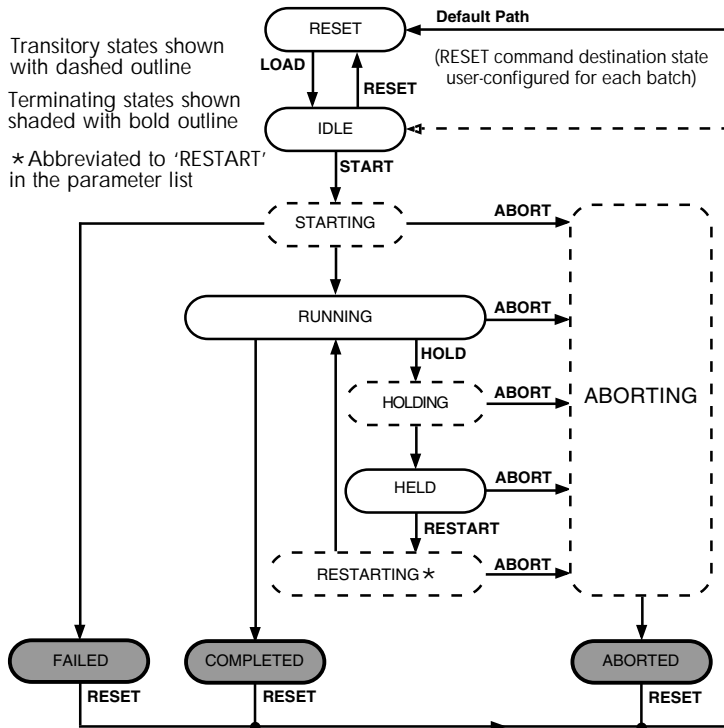

Figure 6-4 Batch engine state diagram
In the COMPLETE state, RESET is the only active button — see Figure 6-4
Figure 6-4 shows the instrument batch engine state diagram. The different states are shown in boxes linked by labelled arrowed lines. In most cases you can get from one state to another by pressing the button identified by the relevant label. E.g. the only way to get from RESET to IDLE is to press the LOAD button. In the RESET state, no other button is active.
- 1 From the **COMPLETE** state, press **RESET** to get the batch engine into the **RESET** state. This is the only possibility, see Figure 6-4. The **Batch Status** screen appears.
- 3 In the **Batch Start** screen you have two possibilities, **START** and **RESET**. **SAVE AS** does not affect the batch state. Figure 6-4 shows where each of these leads. Press **START** to move to the **RUNNING** state.
***Note** You can see from Figure 6-4 that pressing **RESET** from any of the terminating states (**FAILED, COMPLETE, and ABORTED**) moves the batch state either to **RESET** (the default) or to **IDLE** (if you configure it so). An advantage of the **IDLE** state is that you don't have to reload the batch to run it again. But the advantage of returning to **RESET** is that all data is re-read from disk, ensuring that any online modifications are discarded, that may be important. How to configure this option is explained in Chapter 7.*